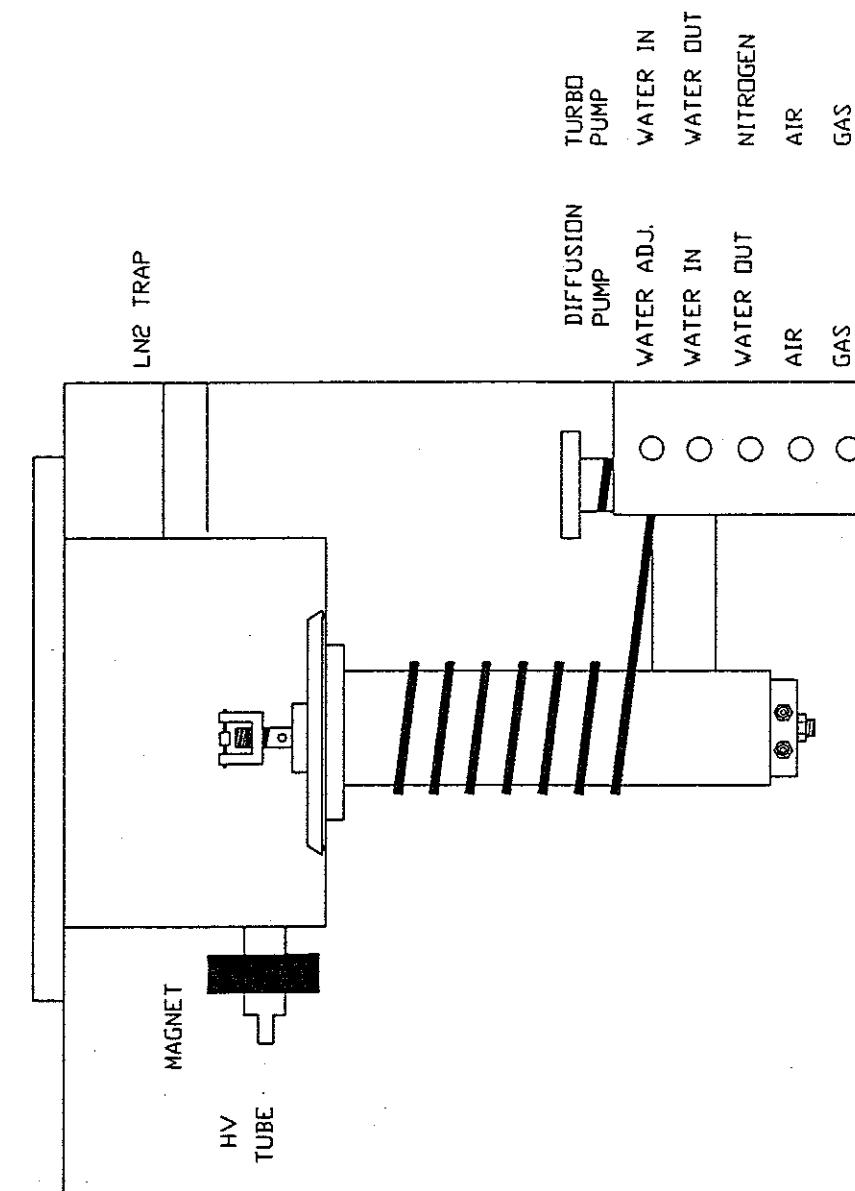

FIGURE 1
1. Remove the back cover. A pair of magnets are shipped taped to the inside of the cabinet. Position them around the flattened part of the cold cathode tube. (Figure 1). The tube is mounted in the cylinder below the baseplate at about two o'clock. Check to see that the cable is pushed onto the end of the cold cathode tube and that the electrical spade connector is pushed onto the spade lug protruding from the cold cathode tube. This connection is the ground wire and must complete the circuit.
2. The evaporator's diffusion pump is water cooled. The water connections are located in the lower right hand corner of the rear of the unit (Figure 1). The unit is equipped with an "in" line and an "out" line, each designed for $\frac{1}{4}$ " lines. Each unit is also equipped with a waterflow control valve. This valve is at the uppermost position of the water connection area, with the "in" line just below the valve, and the "out" line just below the "in" line. After making the water connections, open the flow control valve approximately a half turn. After the diffusion pump is hot, the discharge water should be warm, (approximately 100° F.) which is controlled via the flow control valve.
The cooling water control valve for the diffusion pump is at the left rear of the cabinet (Figure 1 Water Adjustment). The best operation is obtained when water at 70° F., or cooler, is run through the system at a rate such that the discharge water is only slightly warm to the touch. Adjust the water flow rate until the proper exit temperature (100° F.) is obtained. The cooling water should enter at the top of the diffusion pump and exit at the foreline.